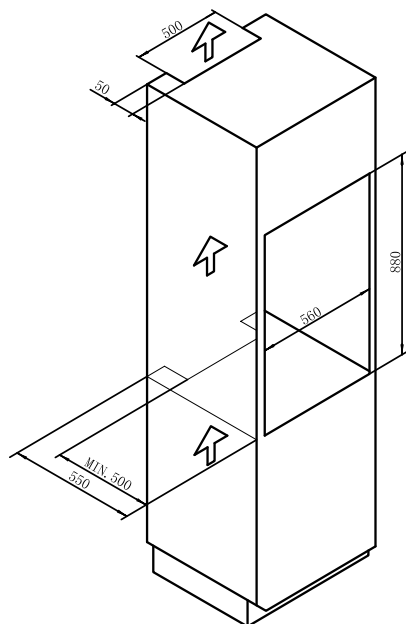

Fig.2
For the most efficient air circulation, the oven should be fitted according to the dimensions shown in Fig.2 and Fig.3
- Openings at least 50mm deep must be cut both in the bottom and in the top of the unit to ensure adequate ventilation (see Fig.2 for dimensions).